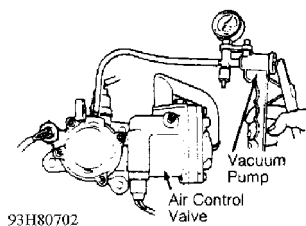

Fig. 59: Testing Switching Valve (RX7)
1) Remove air control valve. Apply about 15 in. Hg to switching valve port. See Fig. 59. Ensure switching valve opens. If switching valve does not open, replace air control valve.